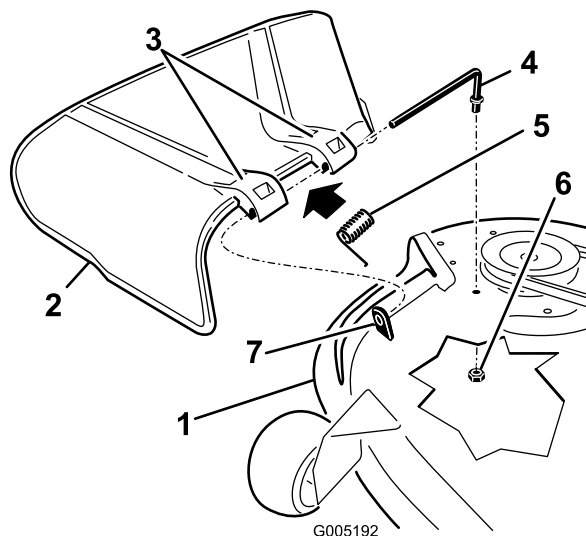

Figure 65
- Remove the nut (3/8 inch) from the rod under the mower (Figure 65).
- Slide the rod out of the short standoff, the spring, and the grass deflector (Figure 65).
- Replace the grass deflector (Figure 65).
- Slide rod through the second grass-deflector bracket (Figure 65).
9. Secure the rear end of the rod into the mower with a nut (3/8 inch) as shown in Figure 65.